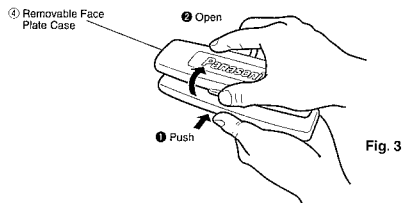

Fig. 3
- ④ As shown in Fig. 3, gently push the lower side of the case and open its cover. Keep the face plate in the case. Then, you can bring the plate safely.